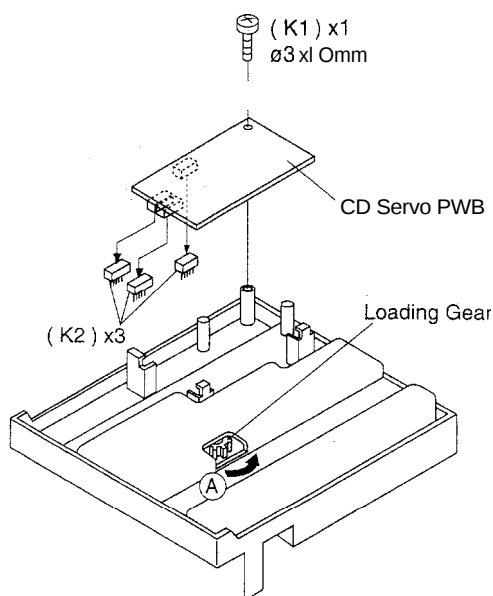

Figure 7-3
Note 1: if the power supply cannot be turned on, (A) turn the gear by hand as shown in Figure 7-3 to open the disc tray.